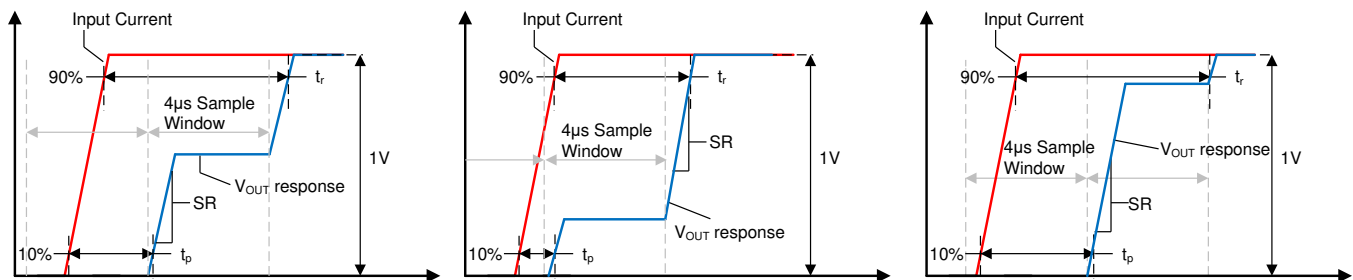

Figure 23. Small Current Input Step Transient Response
Slew rate (SR) is defined as the V_{OUT} rate of change for a single integration step's output transition, as shown in Figure 23. Because the device often requires two sampling windows to reach a full 90% settling of its final value, this slew rate is not equal to the 10%-90% transition time for the full output swing.
Propagation delay is the time period between the input current waveform reaching 10% of its final value and V_{OUT} reaching 10% of its final value. This propagation delay is heavily dependent upon the alignment of the input current step and the sampling period of the TMCS1101, as shown for several different sampling window cases in Figure 23.
Response time is the time period between the input current reaching 90% of its final value and the output reaching 90% of its final value, for an input current step sufficient to cause a 1V transition on the output. Figure 23 shows the response time of the TMCS1101 under three different time cases. Unless a step input occurs directly during the beginning of one sampling interval the response time will include two sampling intervals.